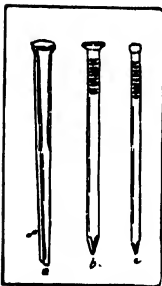

Fig. 226. a. Cut nail, common. b. Flat-head wire nail, No. 1, common. c. Finishing nail, or brad.
*Nails*, Fig. 226, may be classified according to the material of which they are made; as, steel, iron, copper, and brass. Iron nails may be galvanized to protect them from rust. Copper and brass nails are used where they are subject to much danger of corrosion, as in boats.